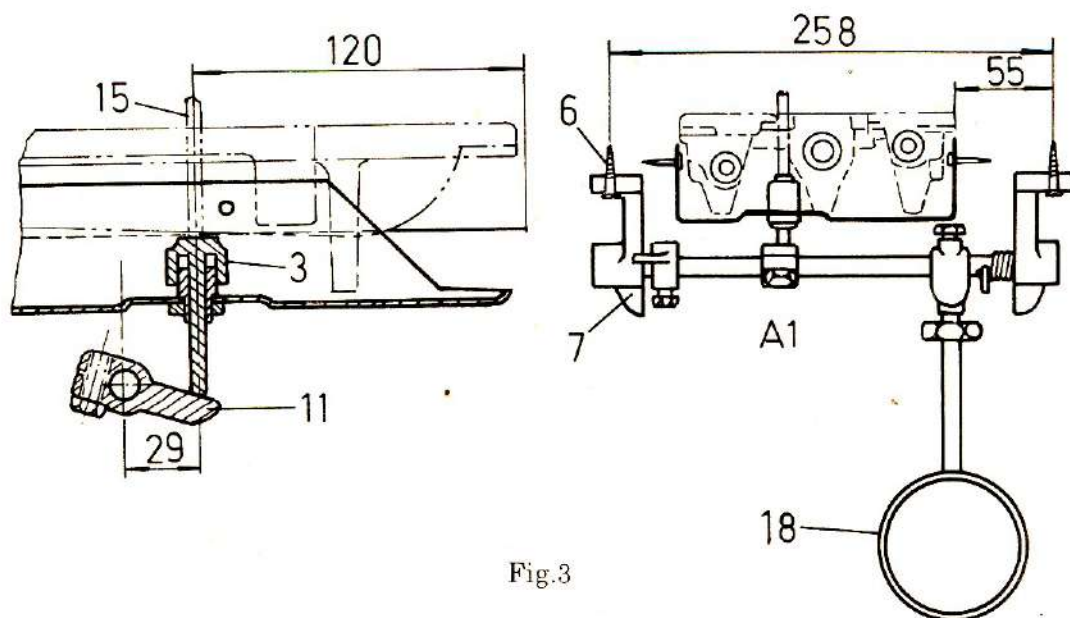

Fig.3
①膝控碰塊(18)的位置可以根據操作者的情況進行調節,以保證操作方便,用力輕、擺動角度合適。
②根據(圖三)要求調整好抬壓腳部件的安裝位置後,即可擰緊膝控提壓腳支座(7)的木螺釘(6)。
(4) Installing the knee lifter lifting lever (fig.3)
①Adjust the position of the knee contacting block (18) according to the operator to ensure easy operation, light running and proper swing.
②Tighten the wood screw(6) on the knee lifter mechanism(7) after adjusting the presser foot parts installing position according to fig.3.